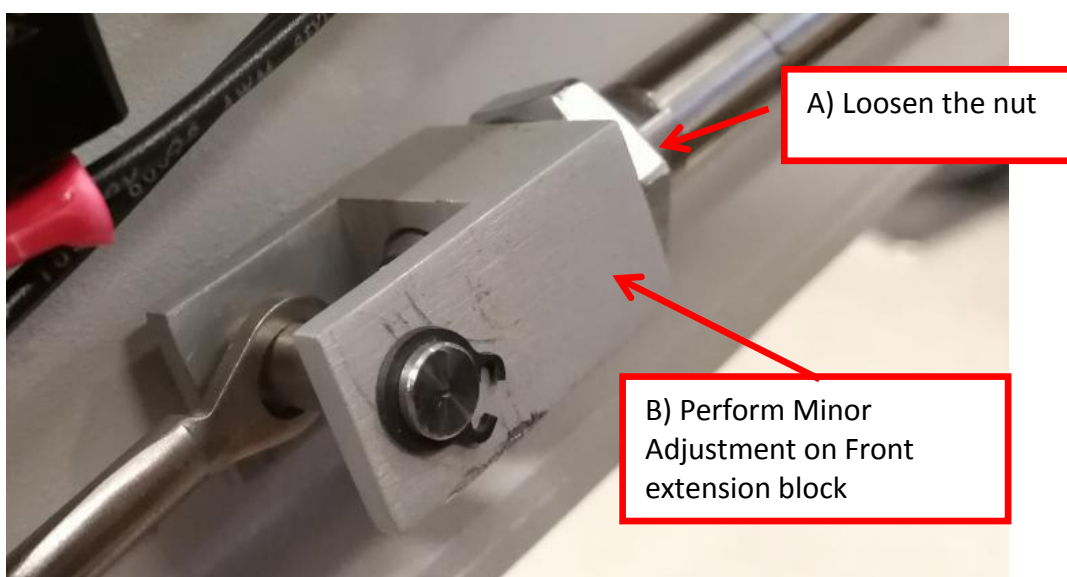

Figure 28
- i. If gap persist, may perform minor adjustment on the Front Extension Block & Nut. May refer to below Figure 28